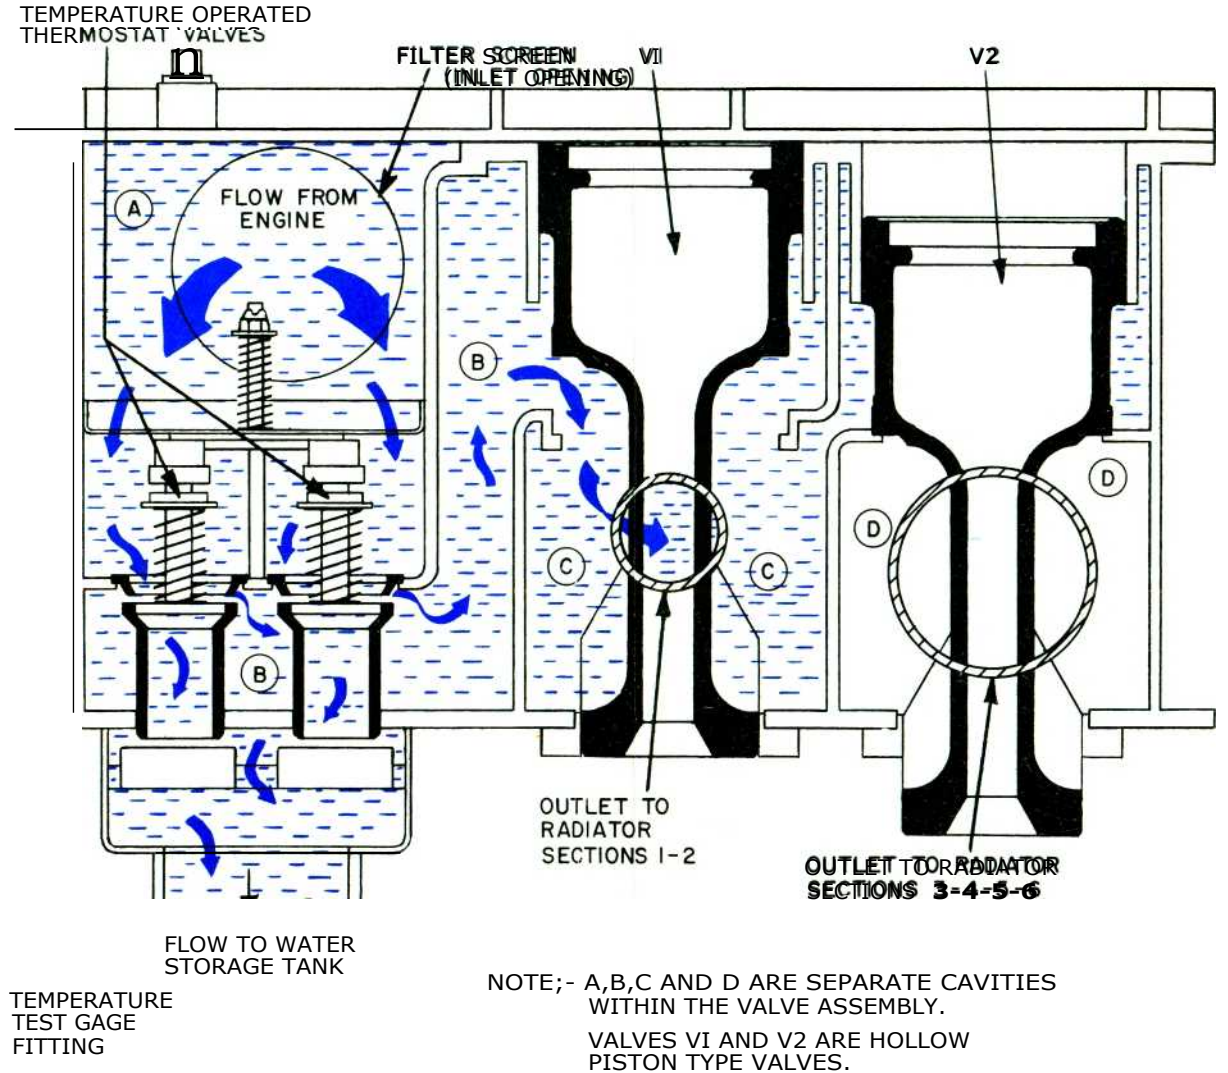

Fig. 6-3. Flow-control valve operation
2. When partial engine cooling is required (Fig. 6-3):